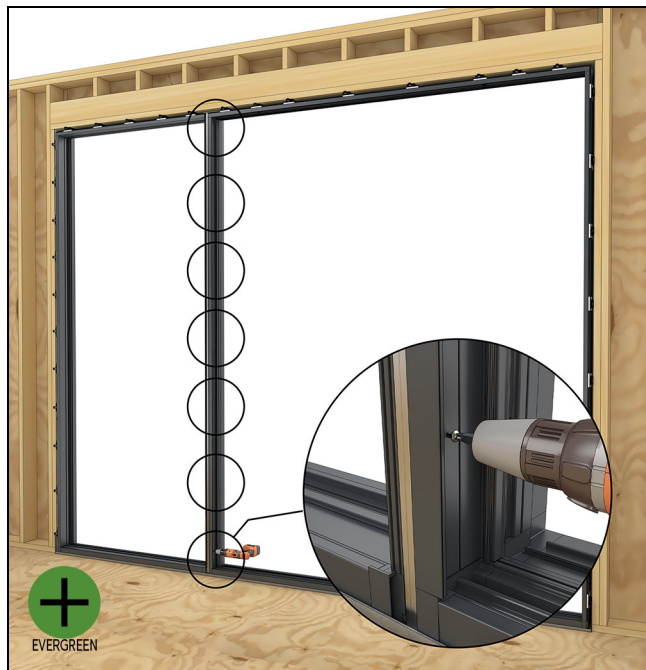

Figure 40 OXO non locking jamb
13. **OXO Configurations:** Fasten the retainer to the aluminum mull pin. Use the fasteners found with the "evergreen" colored kit. See Figure 40.